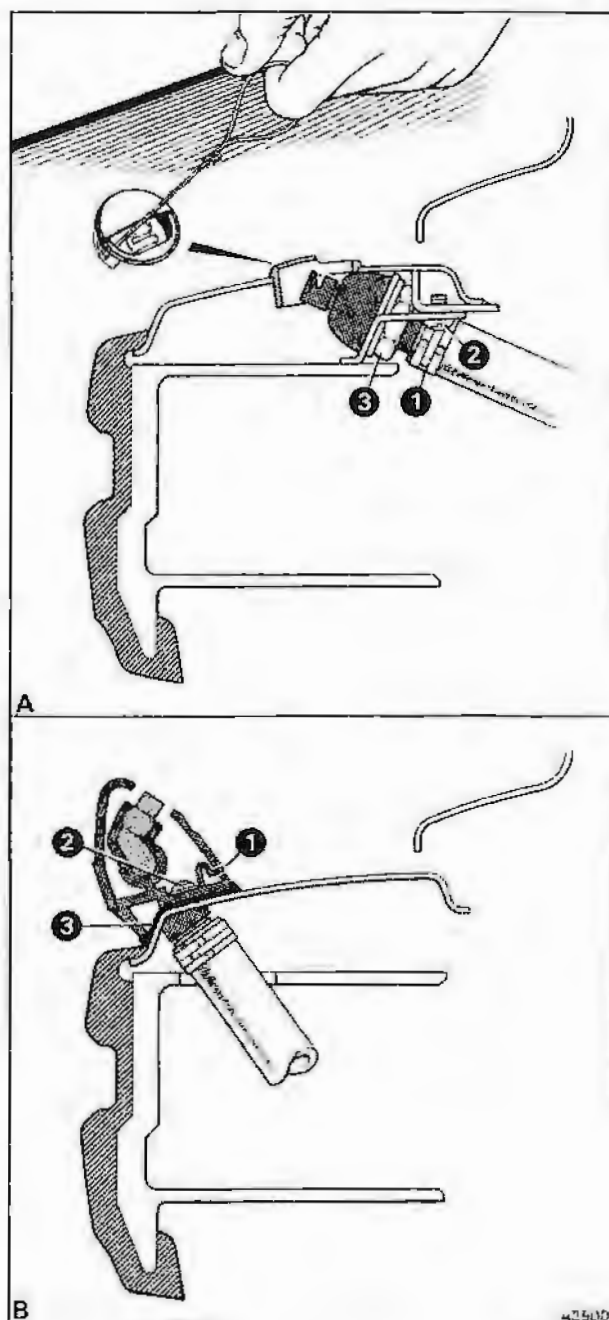

Fig. S10-2 Headlamp power wash jets
4. To disconnect the headlamp power wash hoses proceed as follows referring to figure S10-2.
4. To disconnect the headlamp power wash hoses (if fitted) proceed as follows referring to figure S10-2.
(see fig. S10-2)
Headlamp power wash jets – To adjust (see fig. S10-2)
Note If the bumper is fitted with energy absorption units and the type of power wash jets shown in figure S10-2, inset A, a clearance of approximately 5mm (0.20 in) must exist between the top of the bumper finisher and the front wing panels. This clearance will allow the bumper to retract without damaging the power wash jet covers.